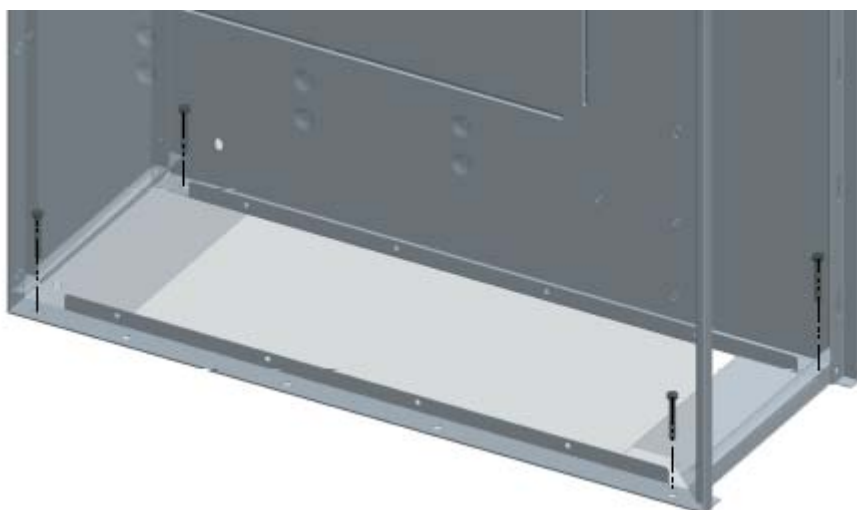

Figure 7: Positioning: Anchoring DF-3 cubicle
- Anchor the second cubicle using the 4 floor bolts. Use the provided openings as seen in Figure 7.